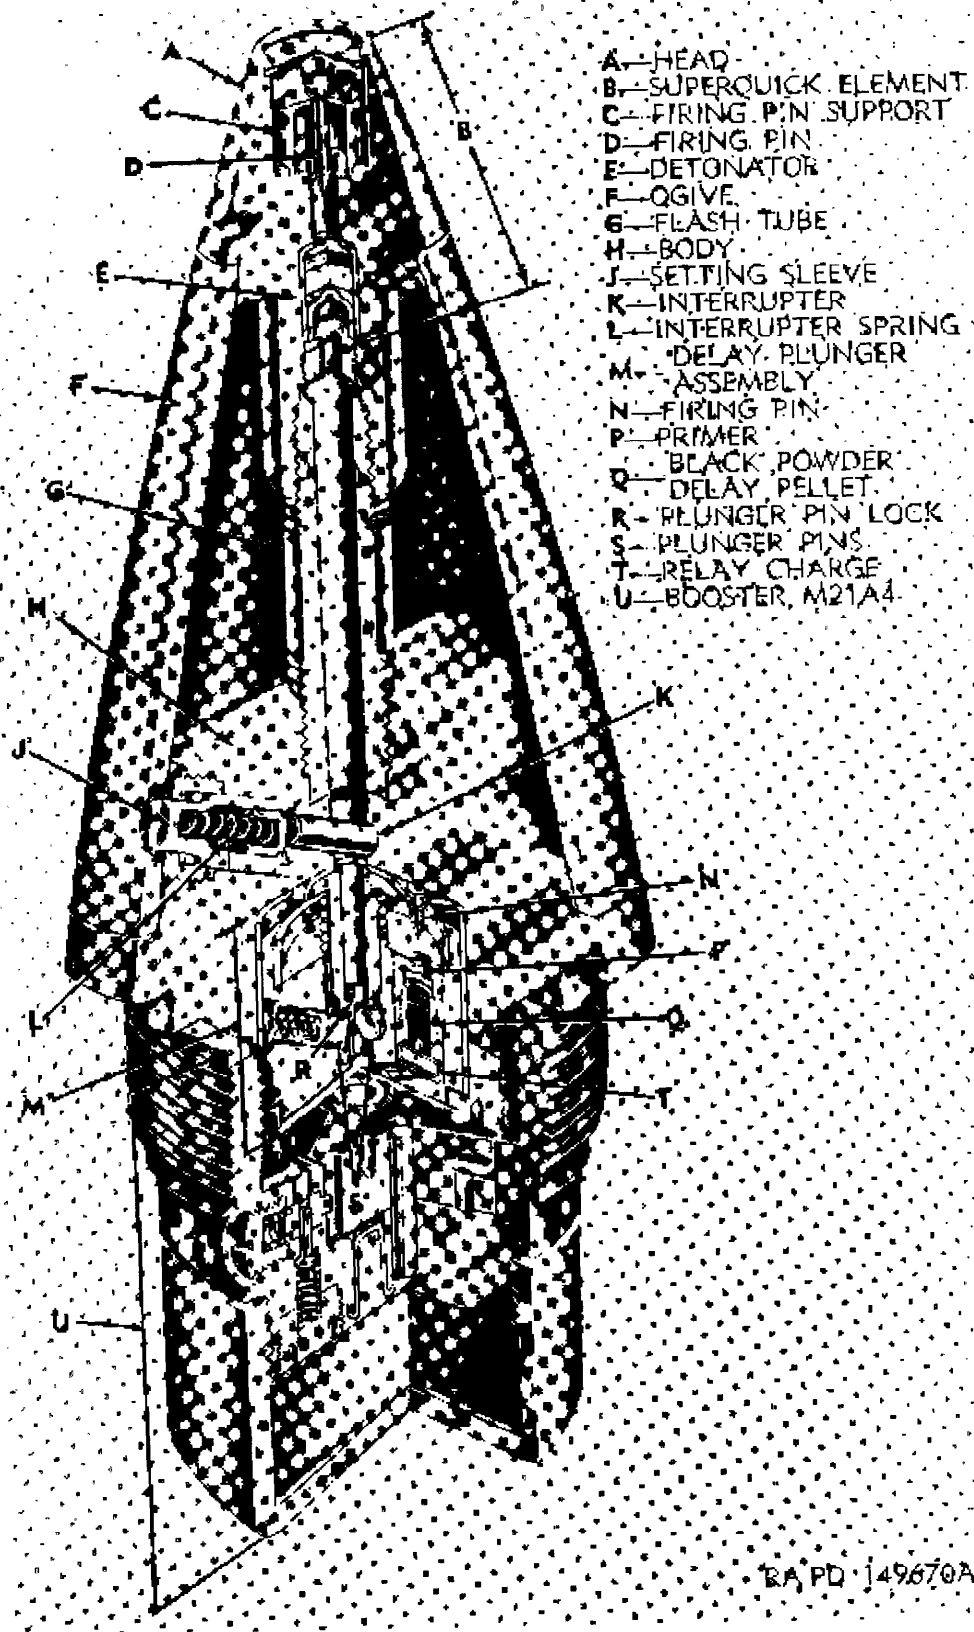

Figure 26. Fuze, PD: M51A5, 0.05-sec delay.
*a. General.* The fuze M51A5 (fig. 26) consists of the fuze M48A3 fitted with booster M21A4 (par. 71). The fuze M51A4 differs from the fuze M51A5 in having a delay plunger assembly, which is less sensitive, has less uniform burning time, and requires greater surveillance than the delay plunger assembly M1 which is used in the fuze M51A5.
*Note.* The key letters shown in *c* and *d* below in parentheses refer to figure 26.
*c. Description.* The fuze consists of a head (A), which holds a superquick element (B); and a body (H), which holds a delay plunger assembly and its housing (M); and a selective setting device (*d* below). These main assemblies are connected by a flash tube (G), which holds and supports the parts firmly in position; and by a thin-walled ogive (F), which gives further support and contour. The superquick element is comprised of a firing pin (D), supported by a cup-shaped gilding metal firing pin support (C); and a detonator (E). The firing pin support is sufficiently strong to withstand initial setback forces upon firing, but collapses under the impact of the target. The delay plunger assembly M1 (M) is an inertia-plunger-type and includes a firing pin (N), primer (P), black powder delay pellet (Q), and a relay charge (T). The booster M21A4 (U) (par. 71) is assembled to the body.
*d. Setting.* The setting device consists of an interrupter (K), interrupter spring (L), and the setting sleeve (J). The head of the setting sleeve is slotted to facilitate turning when changing the setting. To enable exact alignment, two register lines and the marking SQ and DELAY are stamped on the ogive of the fuze. When the slot in the sleeve head is alined